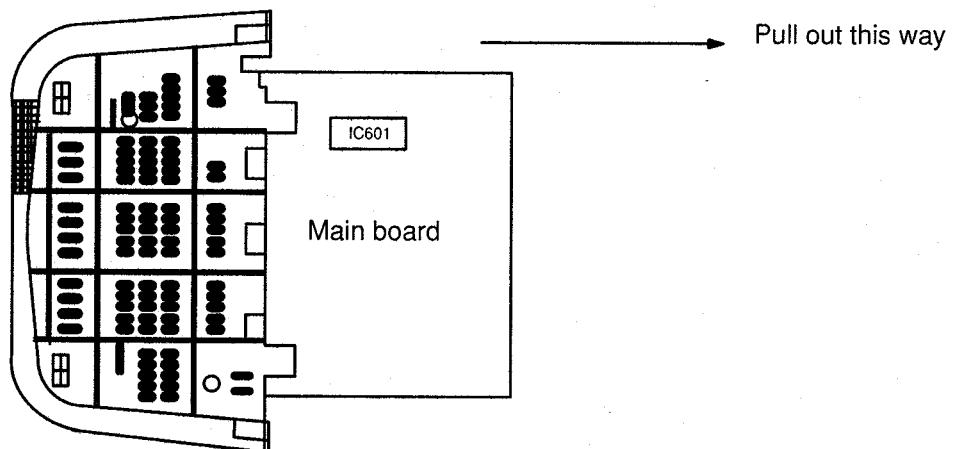

Fig.7
2. Stand the TV set as shown in fig. 7.
3. Remove the E-Board from the TV set by pulling the main board out as shown in figure 7.